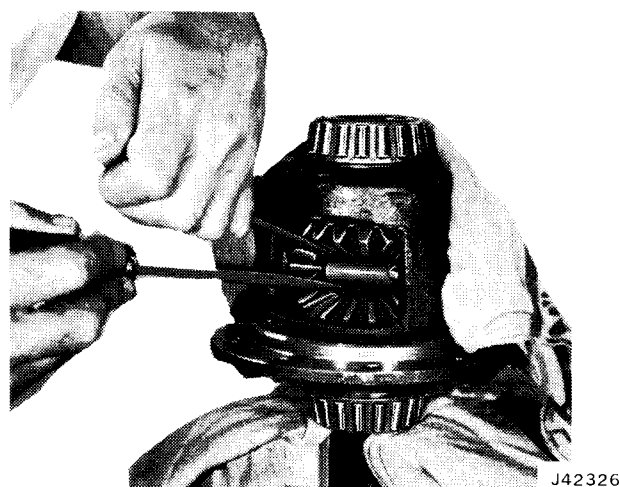

Fig. 10-66 Removing Snap Rings from Pinion Mate Shaft
- (6) Remove ring gear from case using rawhide hammer.
- (7) Remove differential case from axle shaft and remove ring gear.
- (8) Mount differential case on axle shaft.
- (9) Remove snap rings from pinion mate shaft (fig. 10-66). Use two screwdrivers to disengage snap rings. Place shop towel on opposite opening of case to prevent snap rings from flying out of case.